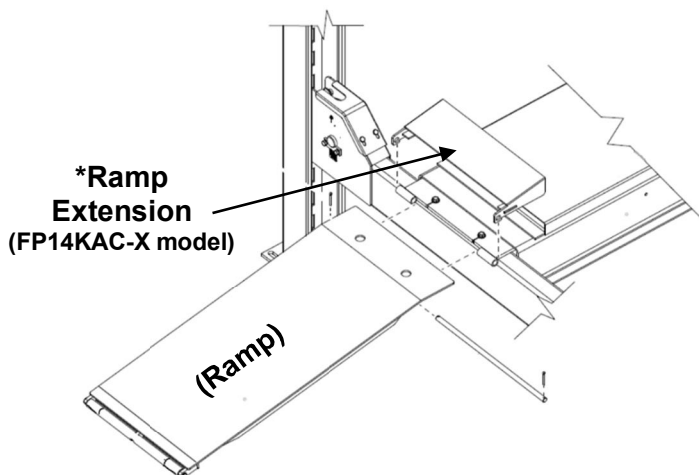

Fig. 1
- 2) To install Runway Extensions to Rear of Lift, remove Ramps & *Ramp Extension from runways, **Fig 1**.